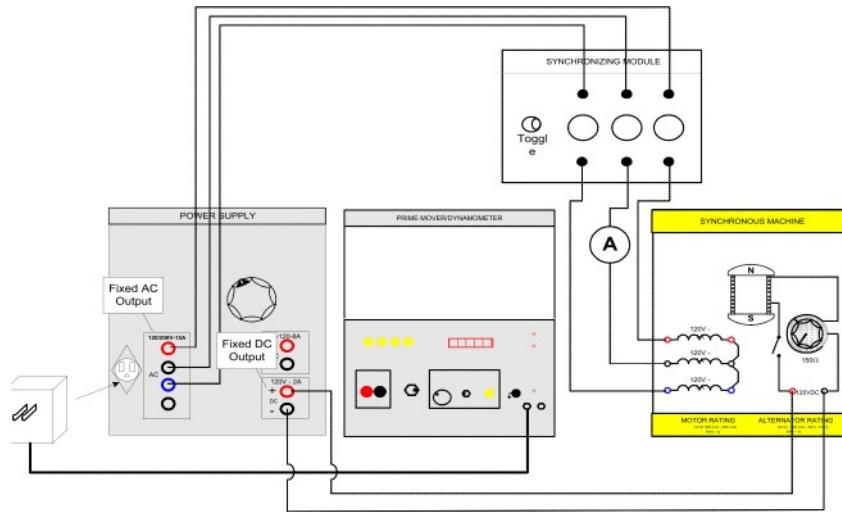

FIGURE 9.4
Step 6: Using your EMS Electrodynamometer and Synchronizing Switch Modules, connect the circuit shown in Figure 9.4. Couple the motor to the electrodynamometer with the timing belt.